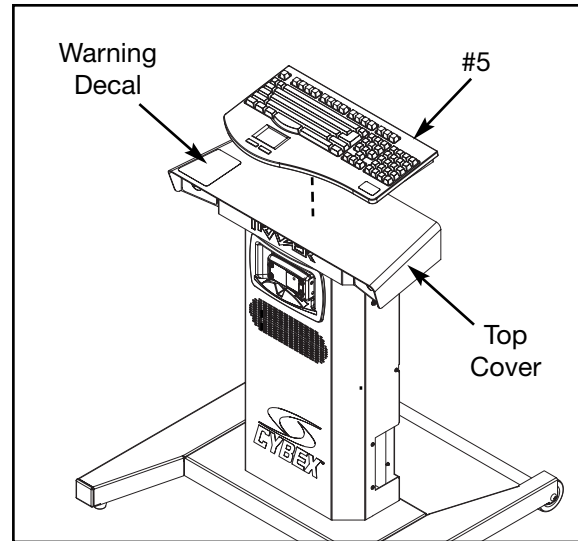

Figure 1
- C. Place keyboard (#5) towards the right side of the top cover of cabinet. Ensure that velcro adheres to top of cabinet. See Figure 1.